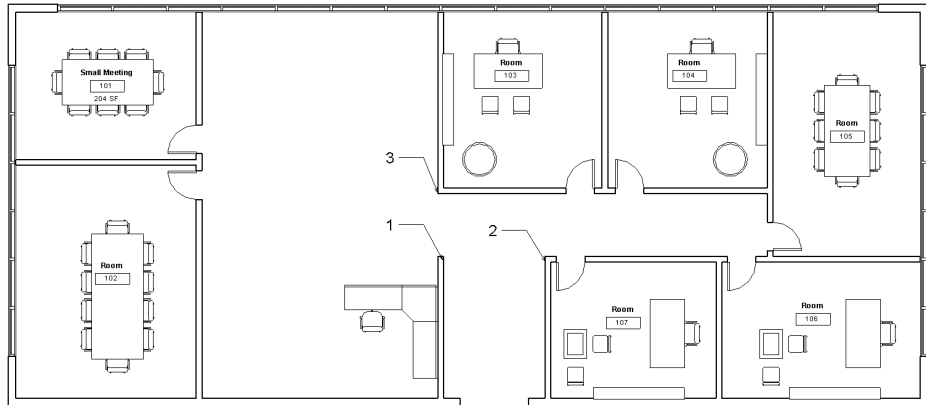

FIGURE 8.8 Adding rooms and tags
- Continue to add rooms and tags to the Level 1 floor plan, as shown in Figure 8.8. The rooms will be numbered as you place them, so place the rooms according to the numeric sequence shown in the figure, starting with room 102.